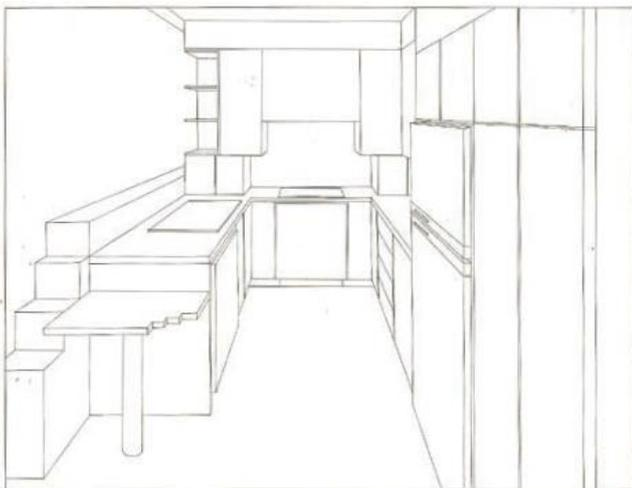

Figure 3.9 A kitchen drawn in one-point perspective
- 5 Decide how long you want the cabinet and draw the vertical and horizontal lines that are the end of the cabinet. Repeat for the left side and you will see the room taking shape. The more items you add, the better it looks. Just remember horizontal and vertical lines, and the other axis going back to the VP (Figure 3.9).